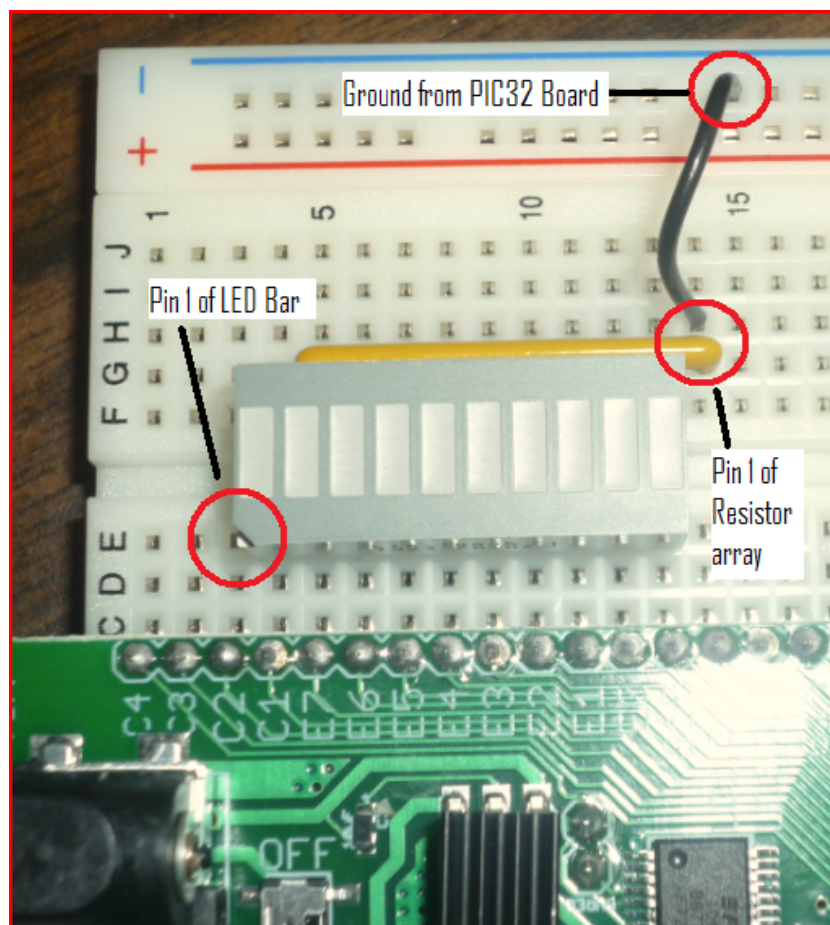

Figure 2: End of Step 3 of circuit assembly
- Your circuit should resemble Figure 2